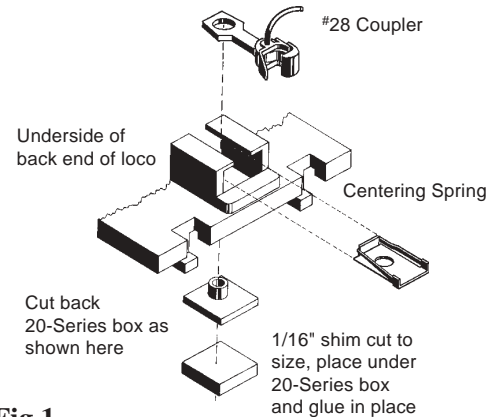

Fig.1
3. Modify 20-Series box by cutting of end and sides. See Fig.1. Make a 1/16" thick shim to fit coupler box between underfloor and 20-Series box.
4. Place coupler in Centering Spring and insert both over 20-Series Box centerpost and slide assembly into loco coupler pocket. Push in shim from other side between underfloor and 20-Series box. Glue shim, box and coupler pocket together with a small amount of plastic compatible cement. See Fig.1. Reassemble motor and shell.